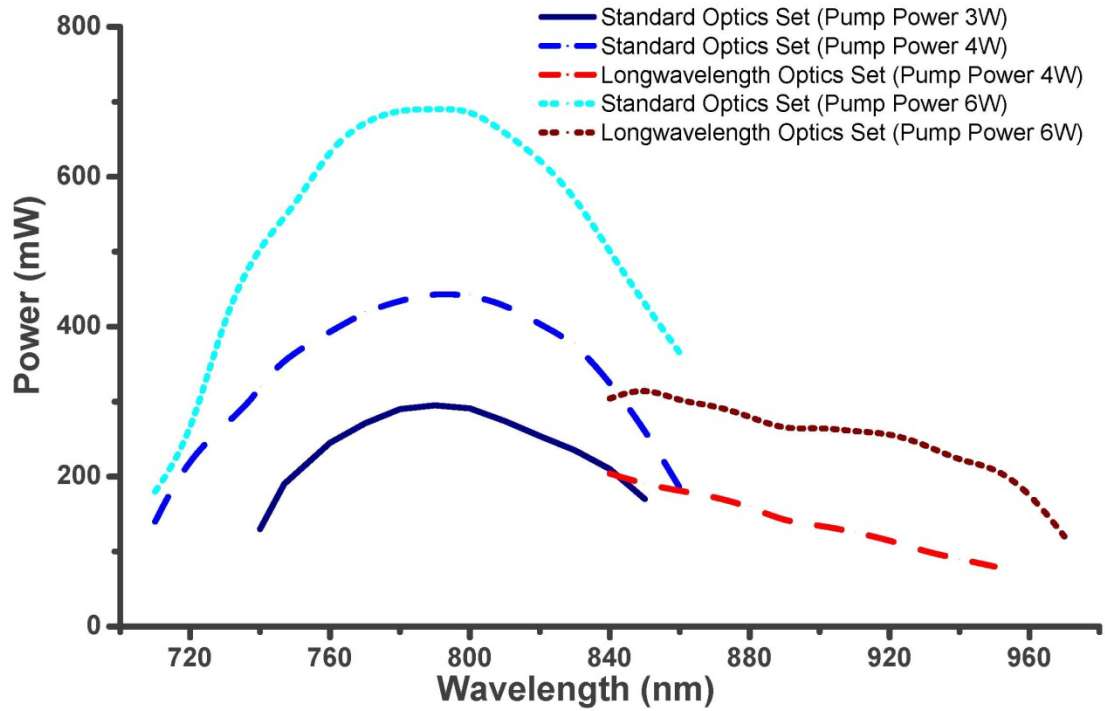

Fig. 19 Tuning curves
88. To get a tuning of output wavelength (*Fig. 19*) and to control spectral bandwidth, flip the slit back into its place. Align the width and position of the slit so that the pulses easily appear at the same spectral position where they appeared without the slit. Write down the position of the prism and the slit. Then watching the spectrum and “pulse train” move the prism position only (the position of the slit will change also) to shift the pulse spectrum to the desired region. Verify that laser easily starts at new position. Repeat this steps until you reach the desired central wavelength.